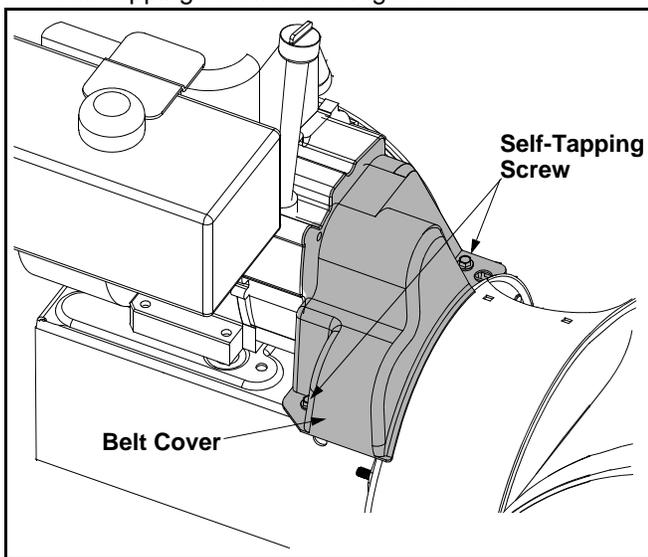

Figure 15
- Remove the plastic belt cover by removing the two self-tapping screws. See Figure 15.